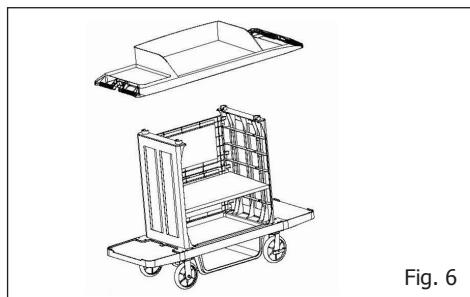

Fig. 6
- Screw the top board onto the side boards with part E & K. (Fig.6)